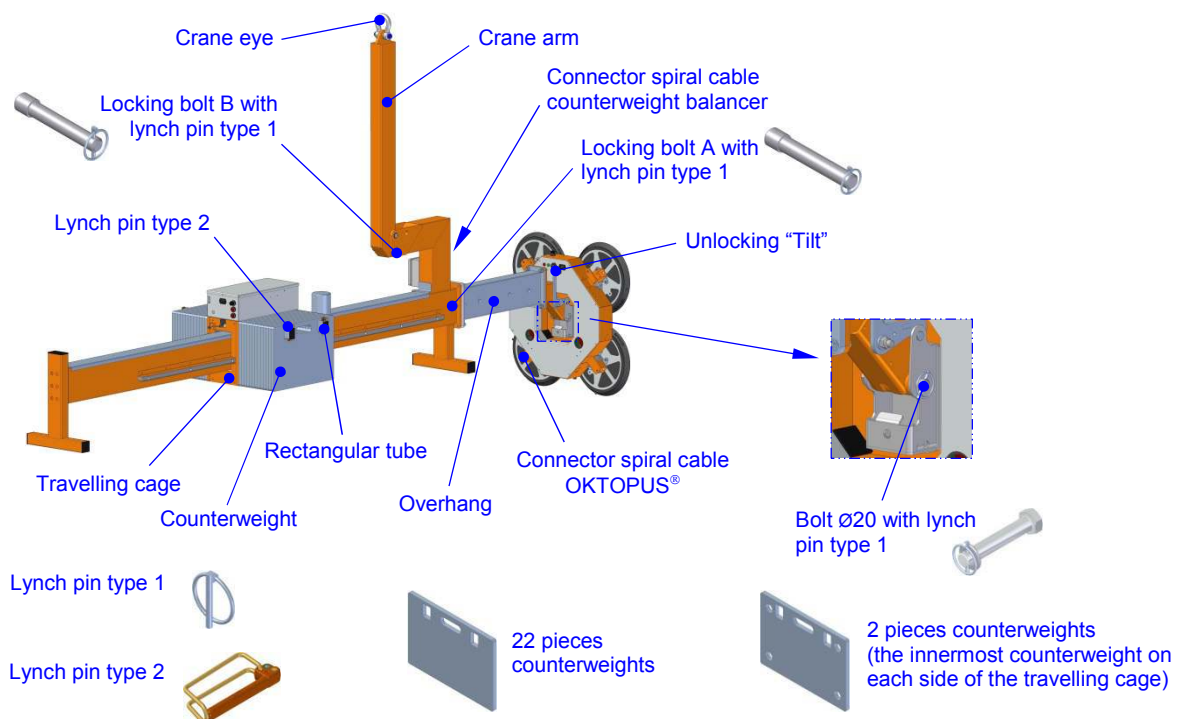

Fig. 7: Counterweight balancer mounted to the OKTOPUS®
- Remove the locking bolt B with lynch pin type 1 (s. fig. 7).
- ⇒ If not done yet, tilt the crane arm of the counterweight balancer 90° up and secure it by means of the locking bolt B with lynch pin type 1 (s. fig. 7).
- Remove the lynch pin type 2 (s. fig. 7).